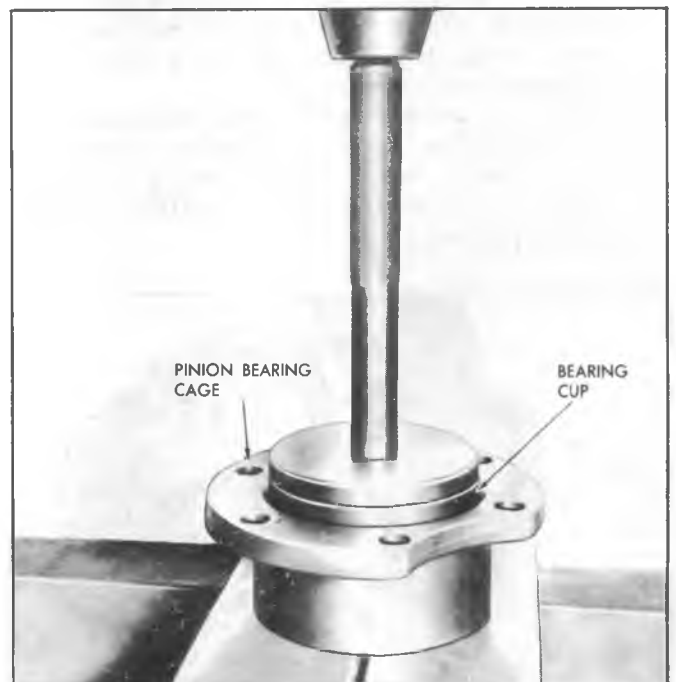

Fig. 22M--Installing Pinion Gage Bearing Cup with Tool J-8479
1. Use Tool J-8479 to install bearing cups in cage as shown in Figure 22M.